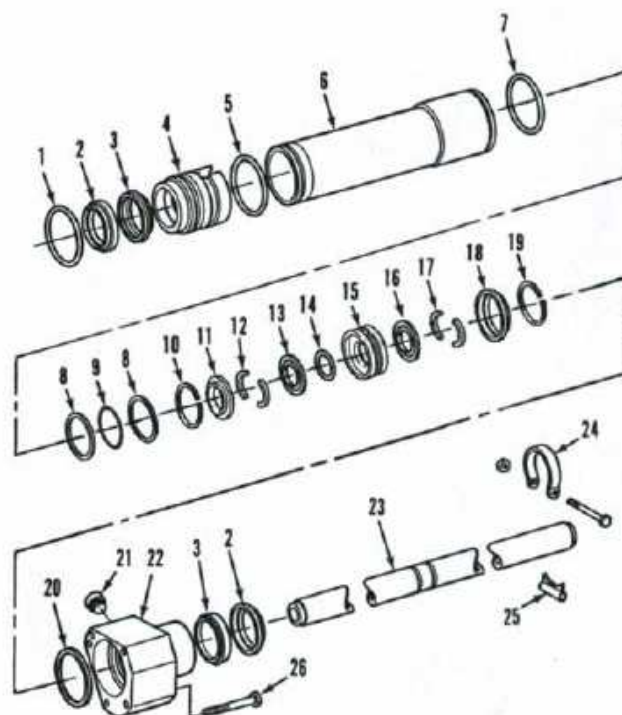

Fig. 41—Exploded view of steering cylinder used on models equipped with front drive axle.
Disconnect steering lines at each end of cylinder. Cap or plug all openings immediately. Clean exterior of cylinder and surrounding area. Disconnect tie rod ends from swivel housing arms. Unbolt and remove steering stop collar at each end of cylinder rod. Remove tie rods by unscrewing threaded studs (3) from ends of cylinder rod. Unbolt and remove right side guide (22—Fig. 41) and shim spacer (20). Withdraw piston and rod assembly, then remove cylinder sleeve (6) and left side guide (4). Remove scraper (2) and groove rings (3) from both end guides. Remove the two Teflon rings (8) and piston seal ring (9) from piston. Remove snap ring (10), collar ring (11) and split ring (12), raise, then lower piston and remove spacer (13) and "O" ring (14). Remove piston (15), spacer (16), split ring (17), collar ring (18) and snap ring (19).
Reassemble cylinder by reversing disassembly procedure and adjust cylinder sleeve to zero end play as follows: With lips of grooved ring (3) and scraper ring (2) facing inward and "O" ring (1) in external groove, install left rod guide (4) with notch facing hydraulic port. With "O" rings (5 and 7) installed in grooves of cylinder sleeve, install sleeve until fully seated on left rod guide. Measure distance between outer and inner faces of right side rod guide as shown in Fig. 42 and record the distance. Then, measure distance between axle housing and end of cylinder sleeve as shown in Fig. 43 and record the distance. Subtract the second distance from the first distance to determine correct thickness of shim spacer (20—Fig. 41) to be used. Shim spacers are available in thicknesses of 0.035 to 0.071 inch (0.9 to 1.8 mm) in increments of 0.004 inch (0.1 mm). Install rod and piston assembly in cylinder sleeve. With lips of grooved ring (3) and scraper ring (2) facing inward in right side rod guide, use vaseline to stick the determined shim spacer to inside of rod guide. Install right side rod guide and tighten rod guide cap screws to a torque of 52 ft.-lbs. (70 N-m).